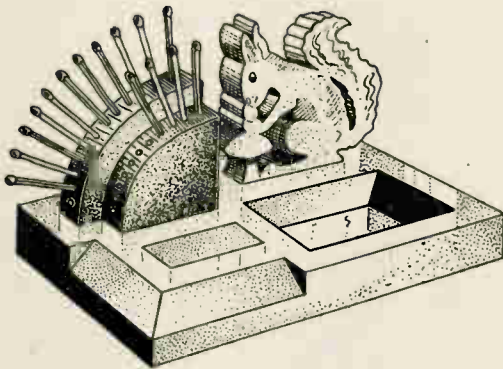

Fig. 1—The novel holder complete
**M**ATCHSTICK holders are usually plain and without much interest. That can hardly apply to the novel holder illustrated at Fig. 1, because there is a simple squirrel statuette, matches are displayed fanwise, making them easily lifted, there is a striker, and a tray is provided for used matches. All of which makes it a suitable item for a useful gift.